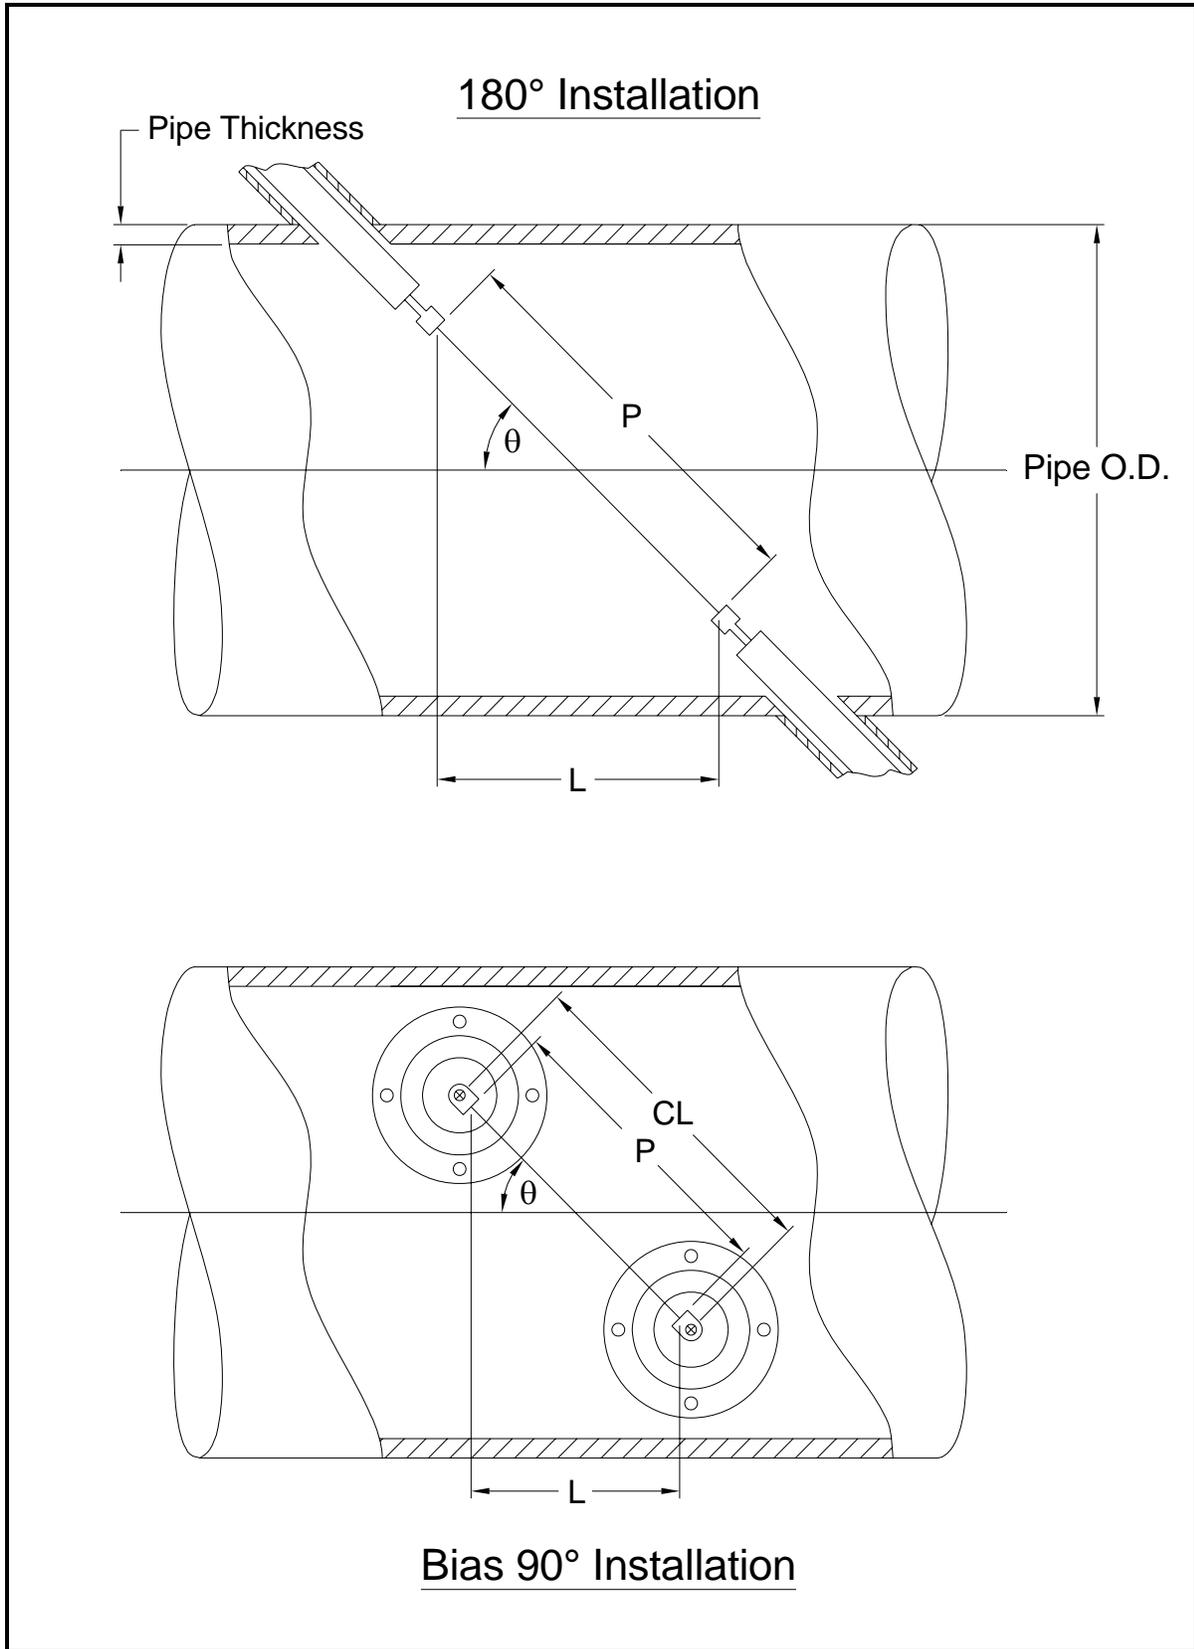

Figure C-1: Top View of Typical Transducer Installations
The accuracy of the programmed P and L values is critical to precise flow rate measurements. If GE Sensing supplies the flowcell for the system, the correct values will be included in the documentation supplied with the system. For transducers installed on an existing pipe (see Figure C-1 on page C-2), P and L must be measured at the site. This appendix provides instructions for properly determining these dimensions.
Whenever possible, physically measure the face-to-face distance (P) and the axial distance (L) between the centers of the flat faces of the transducers. Refer to Figure C-1 on page C-2 for an illustration of the proper distances to measure, in a typical installation.
With a Bias 90° transducer installation, it sometimes happens that the only known parameters are the transducer angle (θ) and the centerline distance between the transducer bodies (CL). In these cases, it is still possible to calculate P and L by combining Equation C-1 above with the additional Equation C-2 below (see Figure C-1 on page C-2):